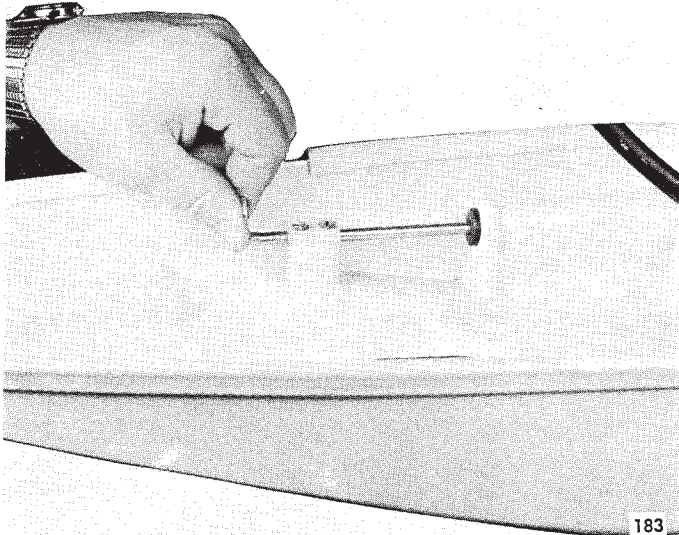

FIGURE 35 — REMOVING SUPPORT PLATE
3. Loosen two (2) screws retaining magneto control shaft bearing cap to support plate.
5. Remove three (3) screws indicated by arrow in Figure 35. Lift support plate up and off motor leg.